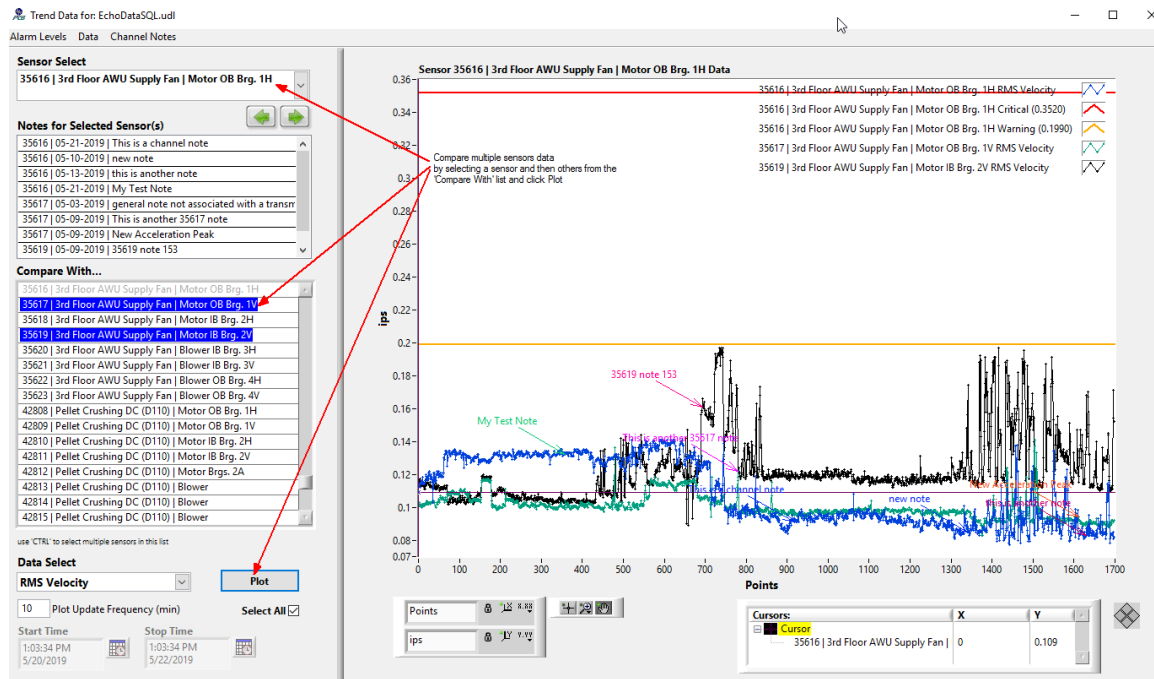

Figure 109 – Echo[®] Sensor Data Trend Screen
- **Trend Plot** button. Activation of this button brings up the screen shown in Figure 109 which provides a graphical representation of the data and the ability to compare it with other sensors.
Activation of the Trend Plot button from the history screen will bring up the display shown in Figure 109 below. This action will also occur if the **Plot...** option from the **Historical Data** screen menu bar is selected or the **Advanced Plot...** item is selected from the main screen Channel List short cut options.
- **View Data...** brings up the Trend Data screen (Figure 109)